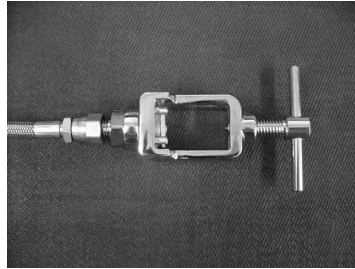
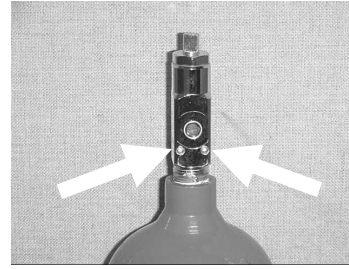

Figure 9.1
Figure 9.2
1. If not already connected, assemble the High Pressure Hose and Yoke using a 9/16" open-end wrench on the hose fitting and a 3/4" Open Ended wrench on the Yoke's hexagonal shaped surface. The complete Hose-Yoke assembly is shown in Figure 9.1. Identify the post valve Yoke positioning holes on the CO₂ supply tank (Tank not provided with system), as shown in Figure 9.2.